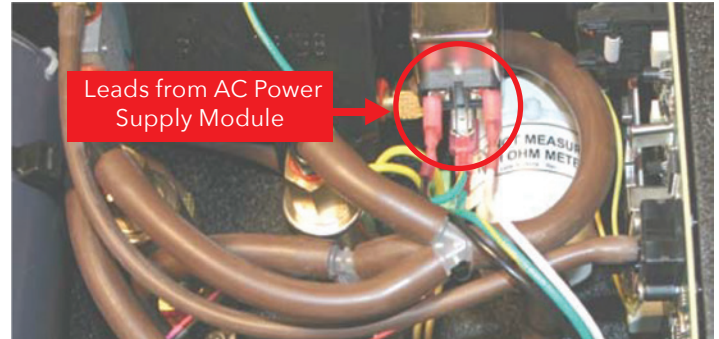

Figure 3. THE POWER FILTER MODULE TERMINALS.
4. Using a needle nose pliers, carefully disconnect the three leads (white, black, and green/yellow) running from the AC power supply module to the back of the power filter module. Refer to Figure 3. To avoid damaging the leads, hold the leads by the spade lugs, not by the wires.